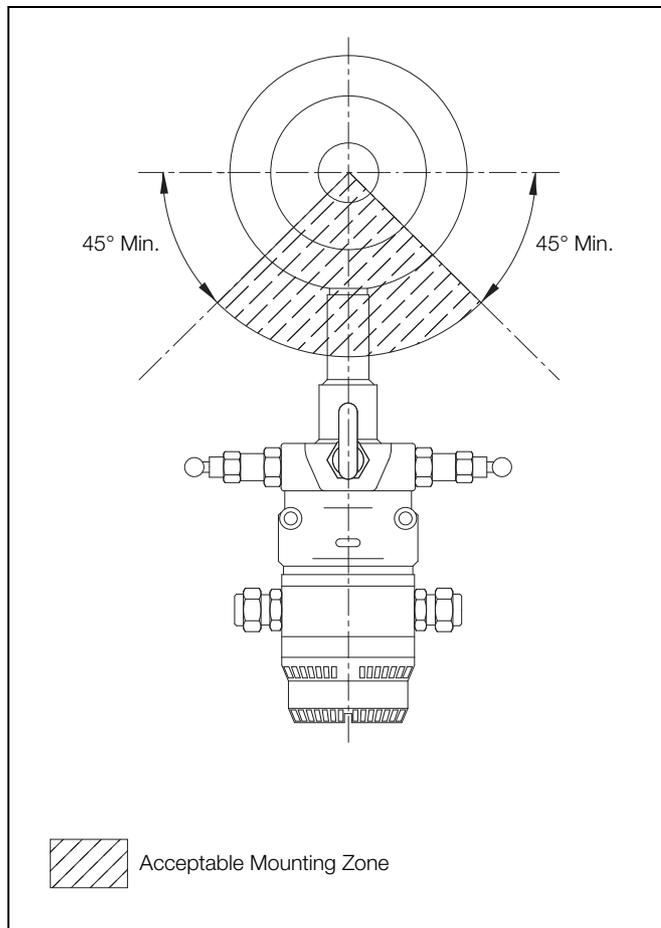

Fig. 2.4 Horizontal Pipe Mounting – Liquids & Steam
To ensure that gases vent back into the pipe, mount the meter **below** the pipe, at least 45 degrees below the horizontal – see Fig. 2.4.
- for horizontal pipe mounting – liquid, refer to Fig. 2.4.
1. Referring to Fig. 2.4, install OriMaster V as described in Section 2.3.